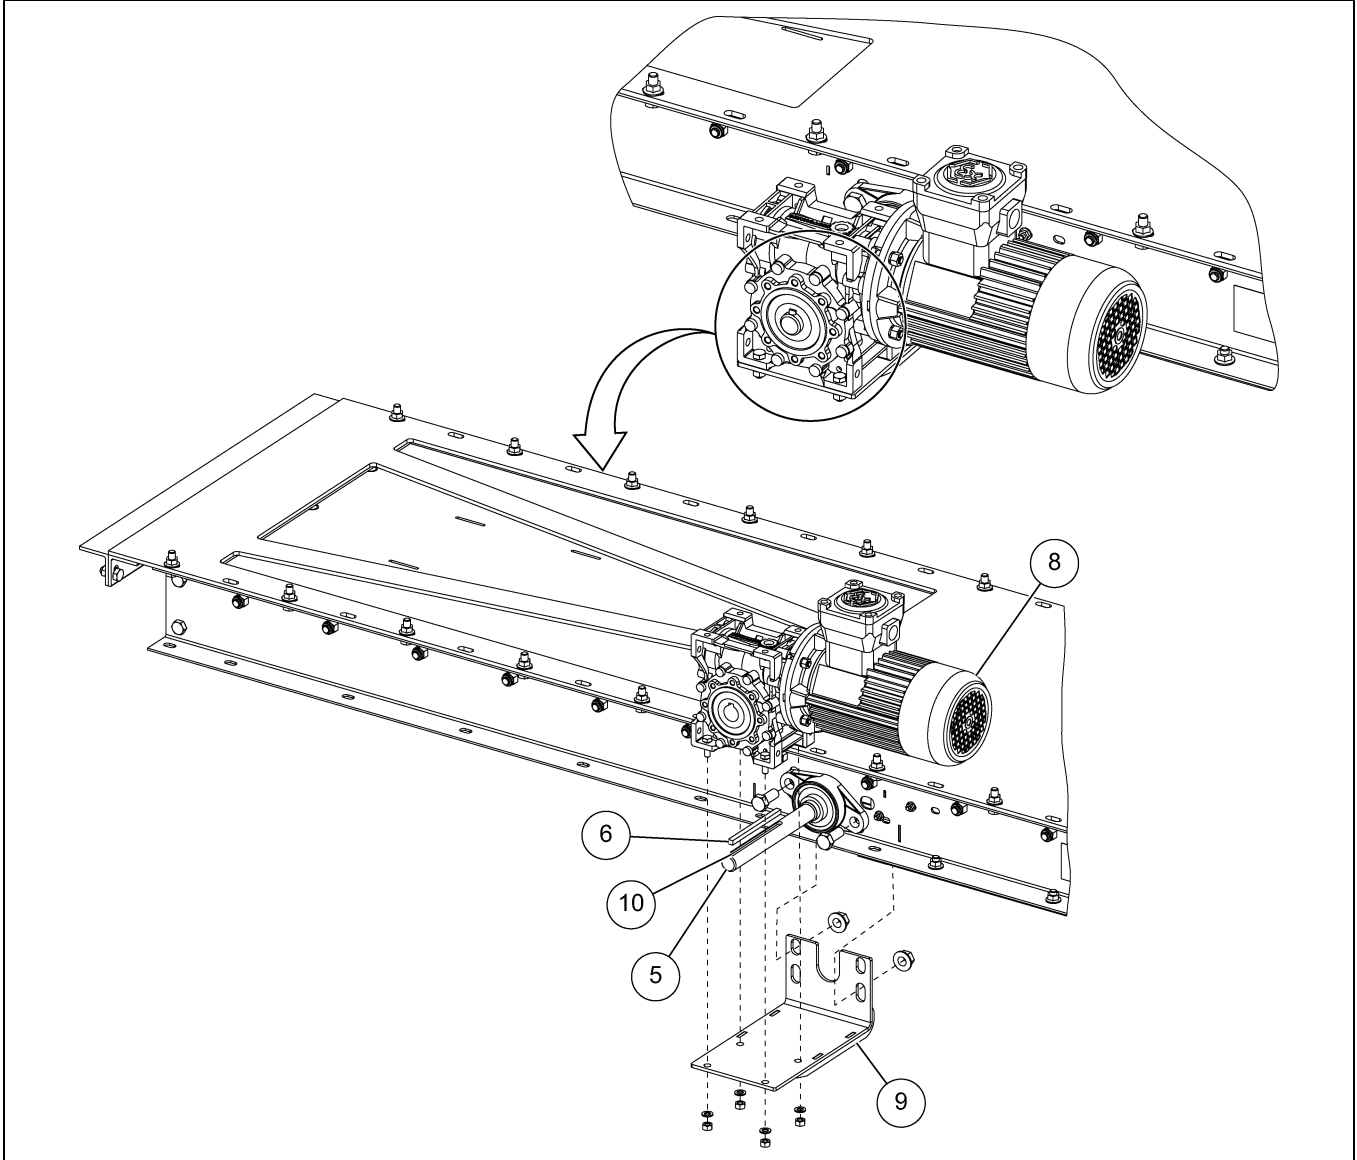

Figure 3E Installing the Motor Bracket - In-Line
1. Install the motor bracket (9) to the gate. Then attach the motor (8) to the bracket (9) as shown in Figure 3E using the provided hardware.